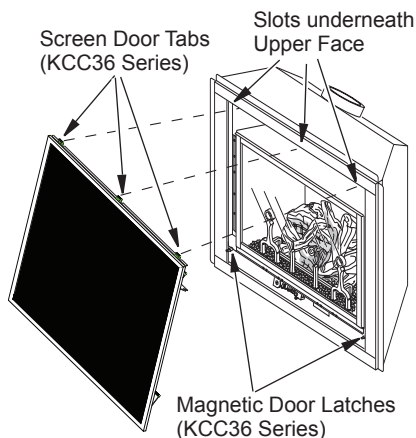

Figure 37 - Removing/Replacing Screen Door Assembly (KCC36 Series)
2. Lift up on latches to unlock. There are two on top of firebox and two below firebox that hold glass door in place (see Figure 37).
3. While holding glass door to prevent it from falling and causing injury, remove five screws from hinge located on left side of door frame assembly (see Figure 37).
5. Close glass door frame. Lock latches by placing bar under tab on door and pushing down and back on latch (see Figure 37, page 24).
8. Replace screen door assembly, see removing screen door assembly, page 24 see Figure 37, for (V)KCC36 series.